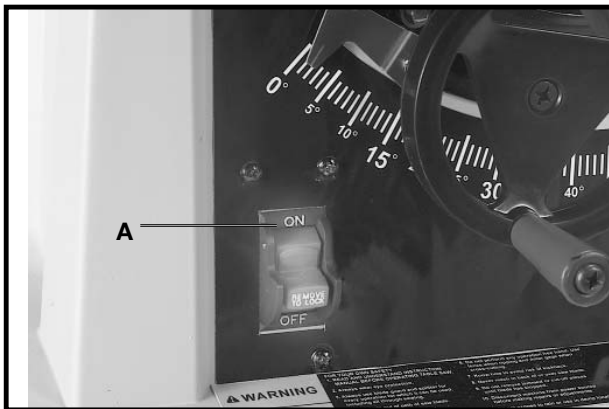

Fig. 29
The on/off switch (A) Fig. 29 is located on the front of the saw cabinet. To turn the saw "ON", move the switch (A) up to the "ON" position. To turn the saw "OFF", move the switch (A) down to the "OFF" position.